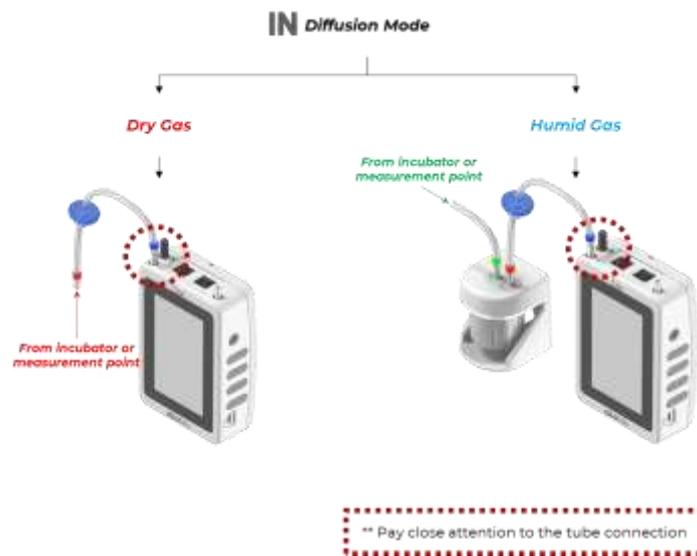
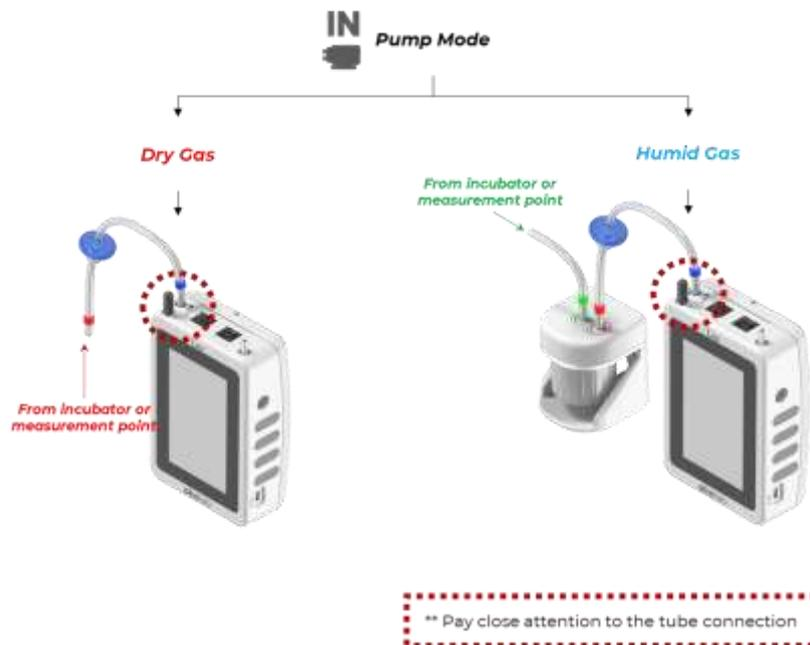

Figure 26. CO2-O2 measurement setup for Diffusion Mode.
Figure 27. CO2-O2 measurement setup for Pump Mode.
In both the two measurement modes you are advised to pay close attention to the gas being sampled, and verify whether the gas being measures is Dry or Humid. Figure 26 illustrates the Tubing setup to be followed when working in **Diffusion Mode** with either dry or wet sampled gas, whereas, Figure 27 illustrates the Tubing setup to be followed when working in **Pump Mode** with either dry or humid sampled gas. The tubes to be utilized correspond to the Equipment list in Chapter 5.
1. **Diffusion Method**, without pump running. Use Diffusion Mode when the sampling gas has an overpressure higher than 10 mbarg (0.145 psig), as to be sure that you will have a flow higher than 60mL/min. In order to perform a quick measurement simply prepare the setup as indicated in Figure 26, and the display will show a real-time value of the gas being *measured*.
2. **Pump Method**, with pump running. Use Pump Method when the sampling gas is at atmospheric pressure. In order to perform a quick measurement simply prepare the setup as indicated in Figure 27, and press the 'Pump Start' icon , the display will show a real-time value of the gas being measured.